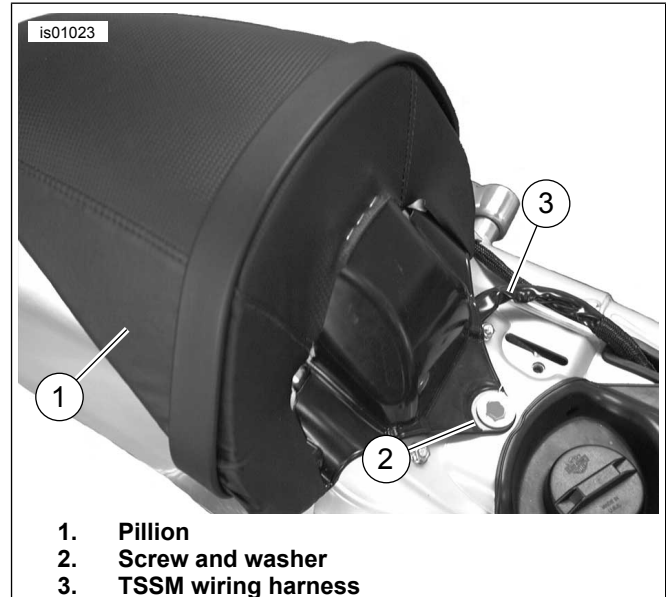

Figure 2. Remove Pillion Mount Screw and Washer
4. See Figure 2. Make note of how TSSM (Turn Signal/Security Module) wiring routes under pillion base and remove and save the pillion mounting screw and washer for re-installation.
21. See Figure 2. Route the TSSM harness through the recessed channel on the base of the pillion.